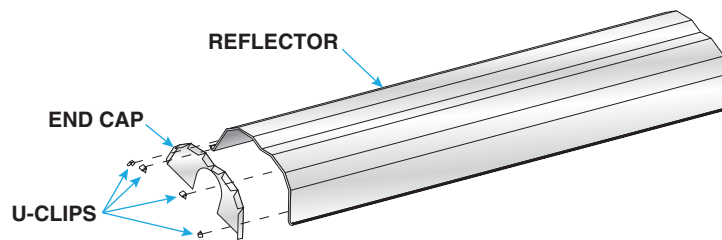

Figure 14. End Cap Installation
6. Install end caps and secure using U-clips as shown in Figure 14.